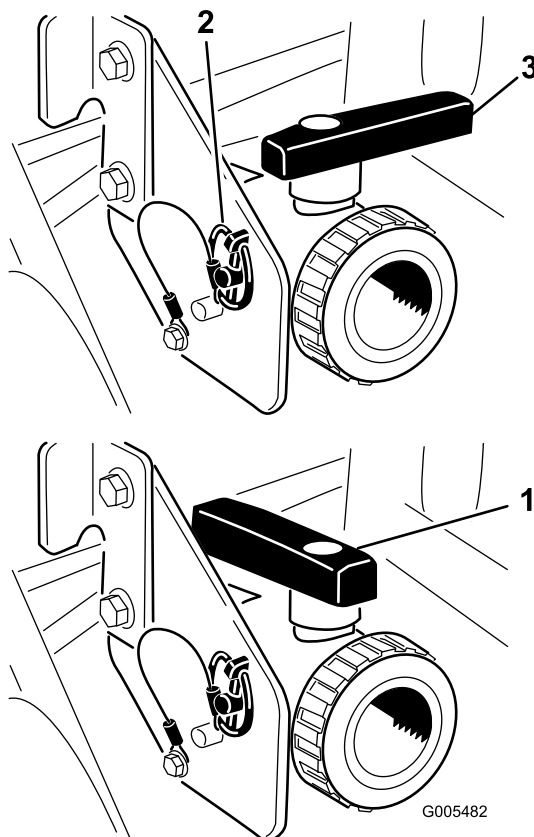

Figure 27
Open the valve to drain any unused material from the tank and dispose of it according to local codes and the material manufacturer's instructions (Figure 27). After draining, remove the lynch pin on the bracket securing the drain valve to the machine and let the valve rest on the ground. This allows any residual material in the line to drain.
3. When the tank has drained completely, install the valve to frame with the lynch pin removed previously and close the drain valve (Figure 27).